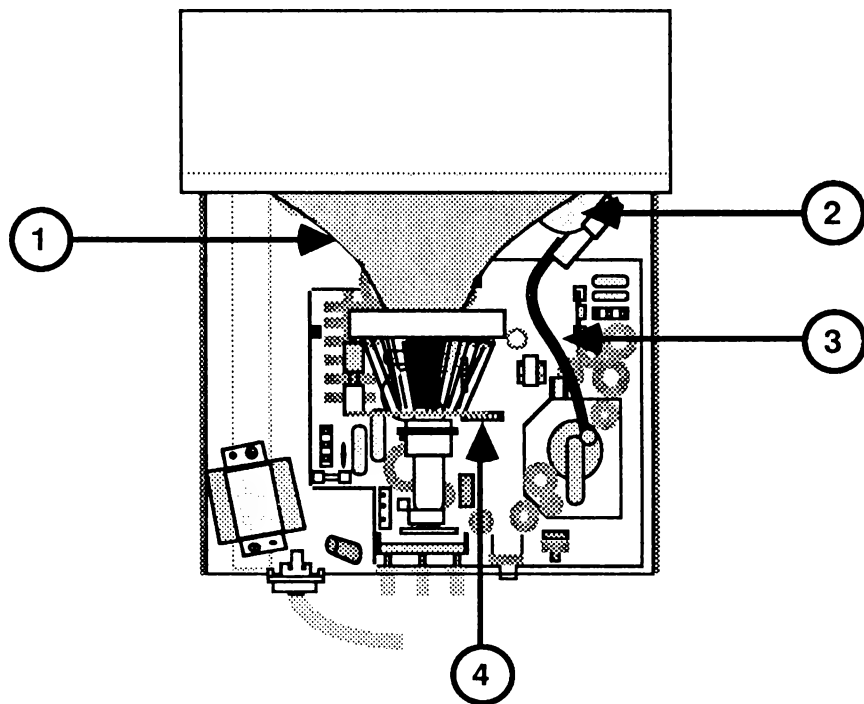

FIGURE 1
1. During these adjustments your hand will come close to extremely high voltages on the tube, anode, anode lead, and yoke wires (Figure 1, #1, #2, #3, and #4). Avoid touching these parts.
- 5.3 Rear Cover Assembly (Figure 1)
(Figure 1)